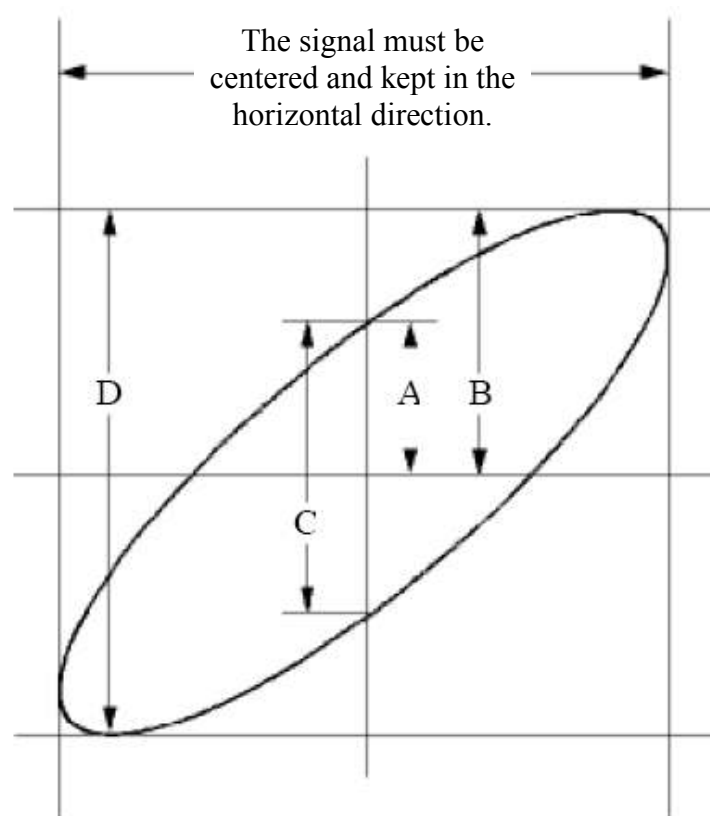

Figure 7-6 Lissajous Graph
- (1) Set the probe menu attenuation coefficient for **10X** and that of the switch in the probe for **10X** (see "*How to Set the Probe Attenuation Coefficient*" on P11).
- (2) Connect the probe of channel 1 to the input of the network and that of Channel 2 to the output of the network.
- (3) Push the CH1 to CH4 button to turn on CH1 and CH2, turn off CH3 and CH4.
- (4) Push the **Autoset** button, with the oscilloscope turning on the signals of the two channels and displaying them in the screen.
- (5) Push **CH1** button to select CH1, turn the lower knob, and then push **CH2** button to select CH2, turn the lower knob, making the amplitudes of two signals equal in the rough.
- (6) Click  to call up the menu panel. Click the **XY** softkey on panel to switch to the **ON** state. The oscilloscope will display the input and terminal characteristics of the network in the Lissajous graph form.
- (7) Turn the upper and lower knobs, optimizing the waveform.
- (8) With the elliptical oscillogram method adopted, observe and calculate the phase difference (see *Figure 7-6*).